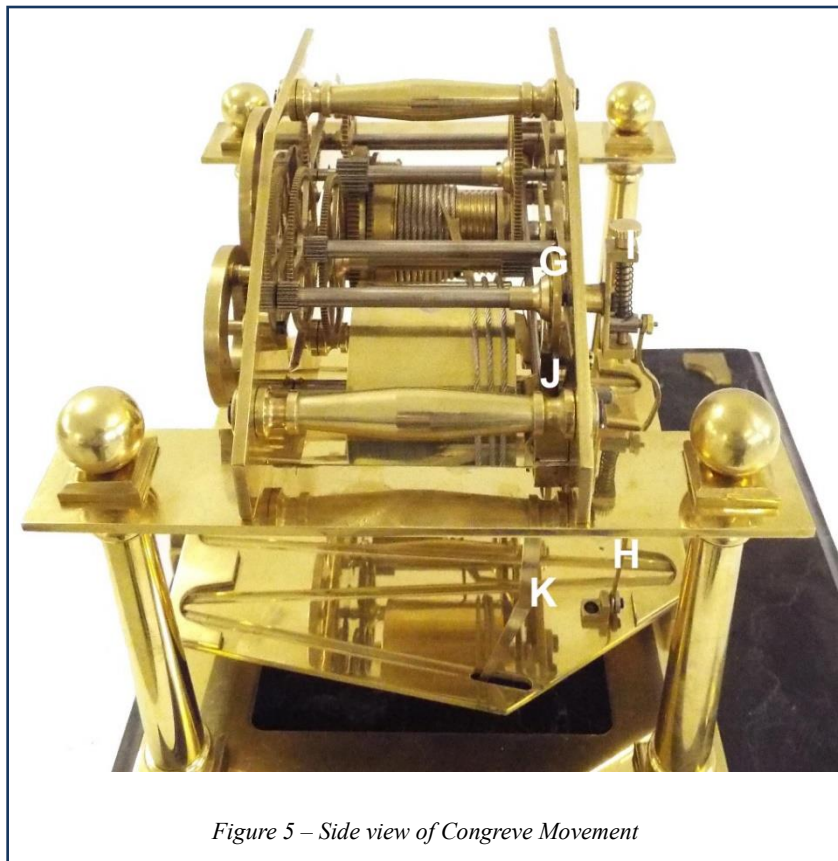

Figure 5 – Side view of Congreve Movement
The detent lever is attached to an arbor that runs parallel to the plates. Also attached to this arbor are two trigger levers which pierce the oscillating table at either end. In the side view of the movement, Figure 5, one of these trigger levers is labelled (K).